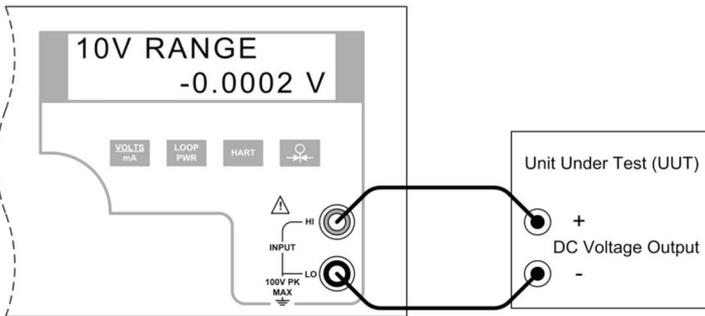

Figure 17 - Isolated DC Voltage Input Connection
- c) Connect the unit under test to the isolated voltage/current input terminals of the PD9500 as shown in figure 17.